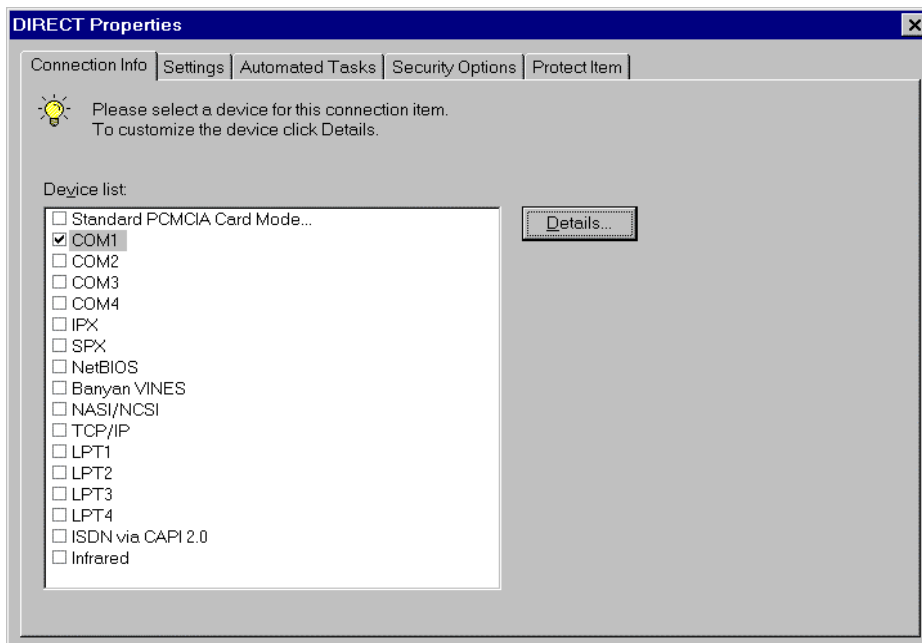

Fig. 2
- Click on the "Properties..." line. The "DIRECT Properties" window (Fig. 2) is displayed.
- Click on "COM1" (or "COM2", if the COM2 port is used) in the window shown in Fig. 2.